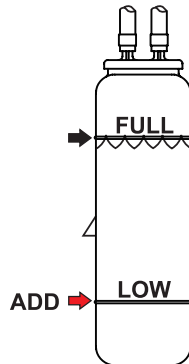

Figure 11. Coolant Reserve Tank
1. Verify the coolant level in the **coolant reserve tank** is between the **FULL** and **LOW** markings as shown in Figure 11.